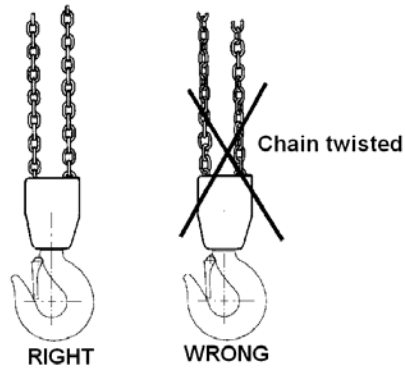

Fig 6 The chain must not be twisted
- The chain must not be kinked or twisted. With 2-fall lever hoists (6.3 t), there is a risk of the chain twisting if the bottom hook assembly ends up looped through the chain sling – usually as a result of refitting or moving the hoist between work stations. See Fig 6.